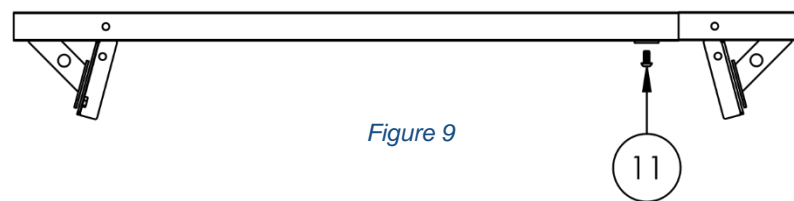

Figure 9
6. **Secure the Crossbars.** Once within the Legs (Item No. 5), lock the Crossbars' position by threading a  $\frac{3}{4}$ " Button Head Screw (Item No. 11) into the position shown in Figure 9. This screw adds to the stability of the Crossbars.